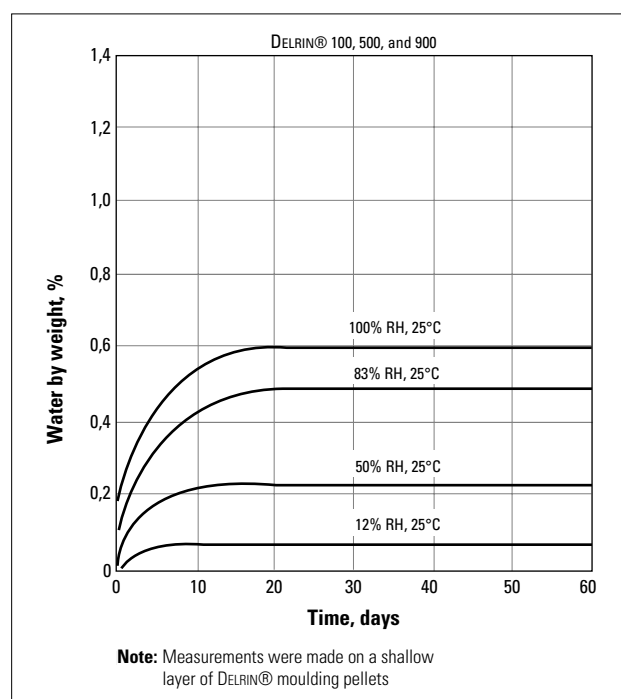

Fig. 7.01 Rate of water absorption at various conditions
- When a resin container stays open for a significant time, drying at 80°C for two hours may improve the melt quality. The water absorption rate of DELRIN® acetal resins at various humidity levels is shown in Fig. 7.01.